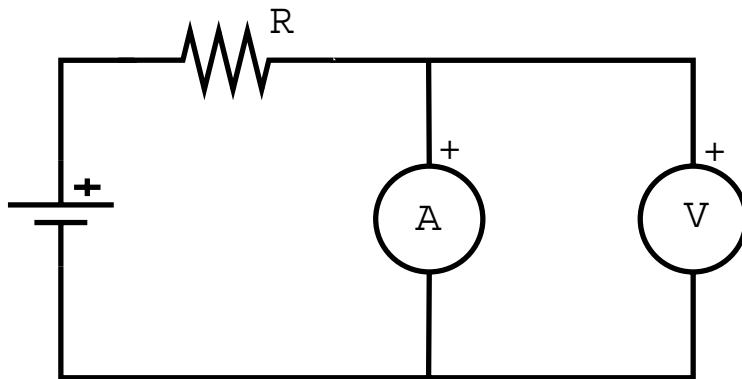

Figure 4: Measuring the internal resistance of an ammeter
Actual ammeters have a small internal resistance, which can be measured using a circuit such as the one shown in Figure 4. Here the DC milliammeter measures the current through itself and the DMM measures the voltage across it. A plot of these two quantities, voltage as a function of current, should yield a straight line through the origin whose slope is the internal resistance of the milliammeter.
1. Set up the circuit shown in Figure 4 using the lowest range of the DC milliammeter.